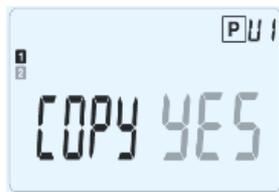

Fig. 19
- choose the "going to bed"  symbol, corresponding to the end of the day, to close; the thermostat will ask you to copy the program of the day, which you just have set and decided to close, onto the following days, as shown in Fig. 19: